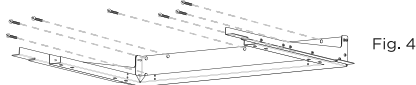

Fig. 4
7. Install the horizontal bracket on the wall, using 7 x 10 x 50 mm anchors and fix it with 7 x 5.4 x 75 mm screws and 7 x 5.3 x 20 mm washers. (Fig. 4). Once installed, verify that it is level.